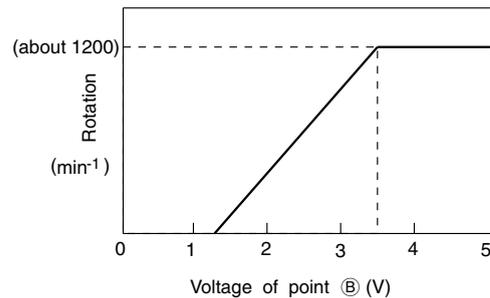

Fig. 6-3
- This pulse changes to analog voltage by R751 and C751 and it is applied to the fan motor as instruction voltage number of rotations. The relationship between the voltage of point ① and number of rotations becomes as shown in Fig.6-3. (The gap may arise depending on the condition of unit.)
- The feedback pulse of number of rotation is outputted from the fan motor and input to micro computer pin ①④. The frequency of this pulse is $12/60$ of the number of rotations. (Ex: $1000\text{min}^{-1} \times 12/60 = 200\text{Hz}$) The micro computer observes this frequency and to make it as the instruction number of rotation all the time, adjusts the output pulse width of pin ④⑩.